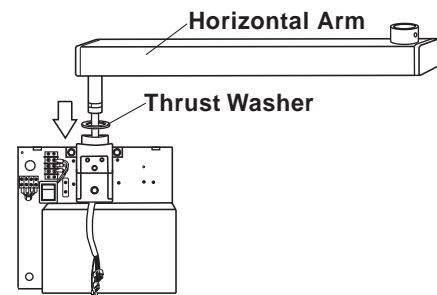

Fig.3-5 Horizontal Arm Installation-1
1. Place a thrust washer over the hole on top of the arm mounting bracket. (Fig.3-5) Insert the cable and horizontal arm into the hole, and mount to the arm mounting bracket, as shown in Fig.3-5.